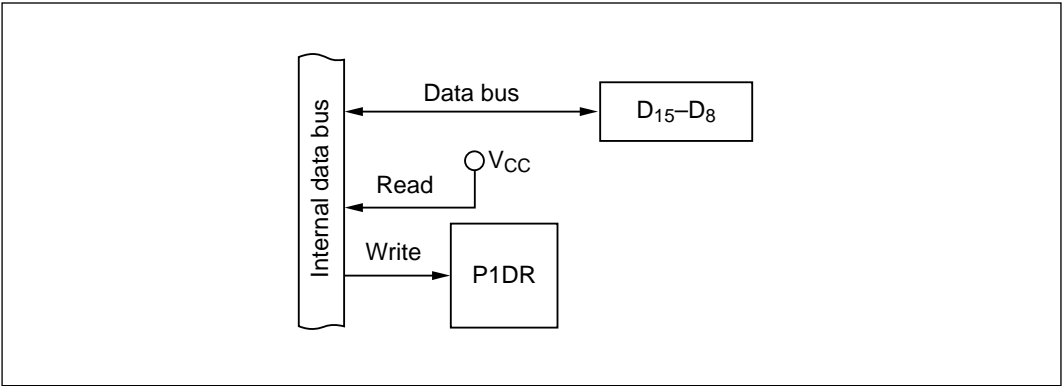

Figure 9-5 Data Bus: D₁₅ to D₈ (Modes 1 to 6)
(1) Data Bus (Modes 1 to 6): Figure 9-5 shows a block diagram illustrating the data-bus function. Table 9-3 indicates register read/write data. When port 1 operates as a data bus, the values in the port 1 data register (P1DR) have no effect on the bus lines. When read, P1DR returns all 1s.